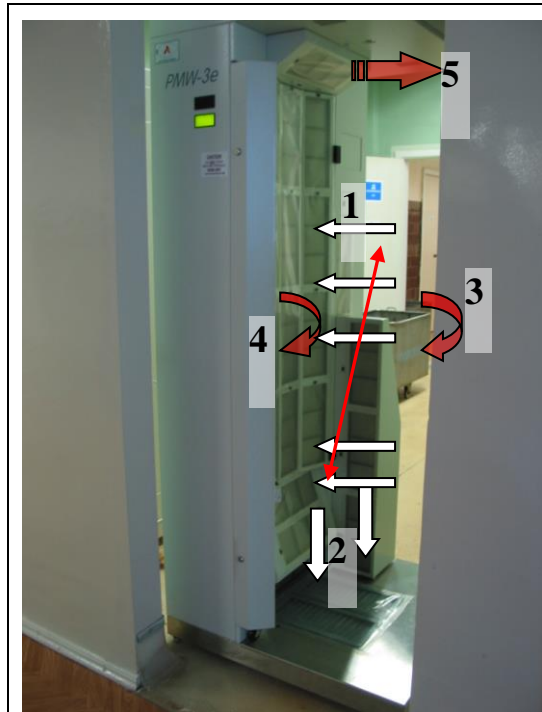

Figure 1
1. Enter the unit and stand facing the measuring panel with body as close as possible to sensors 1, place your feet to the centre of sensors 2 (fig. 1). Place the right palm on angled surface of the sensor 3, and left back of hand – to vertical surface of sensor 4 (fig. 3).